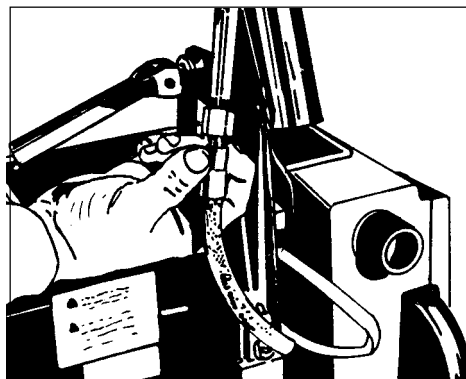

Figure 8
14. Install the solution hose around the outside of the handle to the fitting on the handle tube. See figure 8.